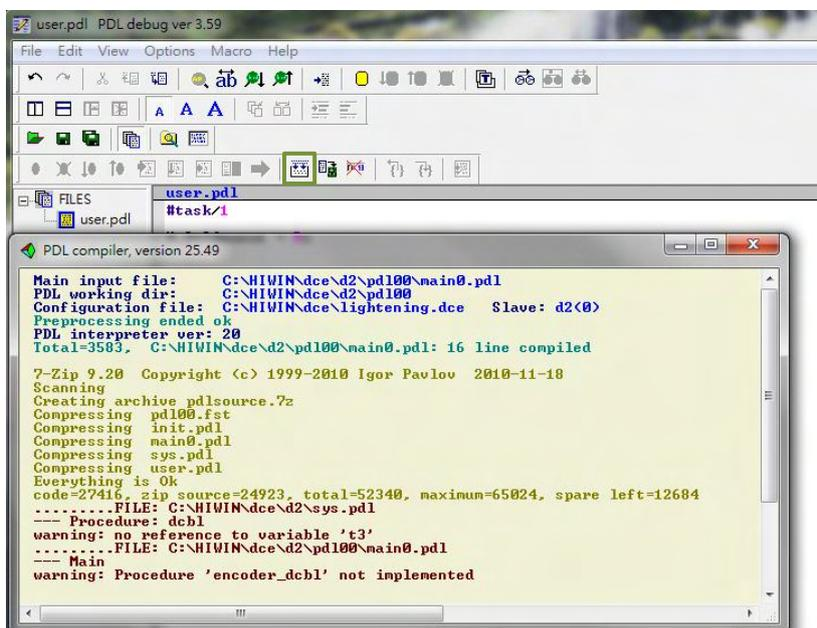

Figure 12.2.4
Step 3. After pasting or writing the PDL program, click the “Compile” icon (🔧) to display the “Compile” window, as Figure 12.2.4 shows.